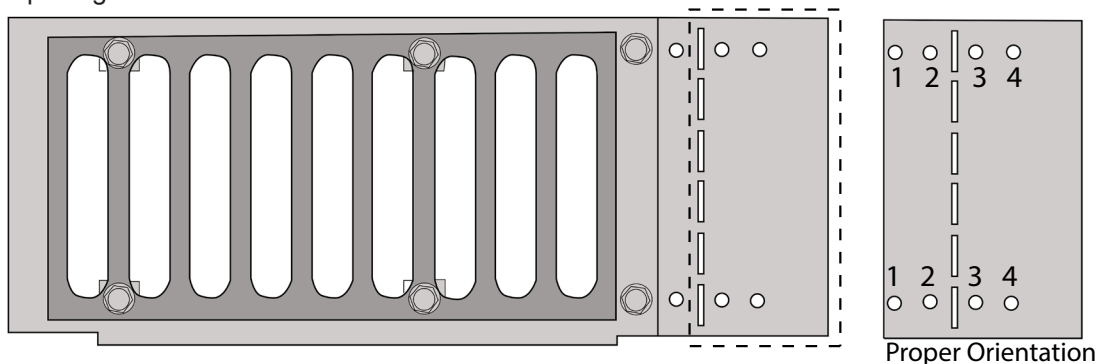

Fig. 5 Extension bracket installed
The bracket extension can be used to extend the vent bracket from 8-inches wide up to 10-inches wide if necessary. The holes in the bracket extension allow for 1/2" increments for width adjustment. Fig. 5 shows the extension in the properly oriented position. If the extension bracket is installed and your are using any of the holes numbered 3 & 4, the perforated area should be bent and broken off (removed) to ensure you are not obstructing the vent bracket opening.
STEP 4: Drill the two holes with a 3/16" concrete drill bit and secure the paver vent bracket with the two concrete screws. Fig. 5 shows front view.